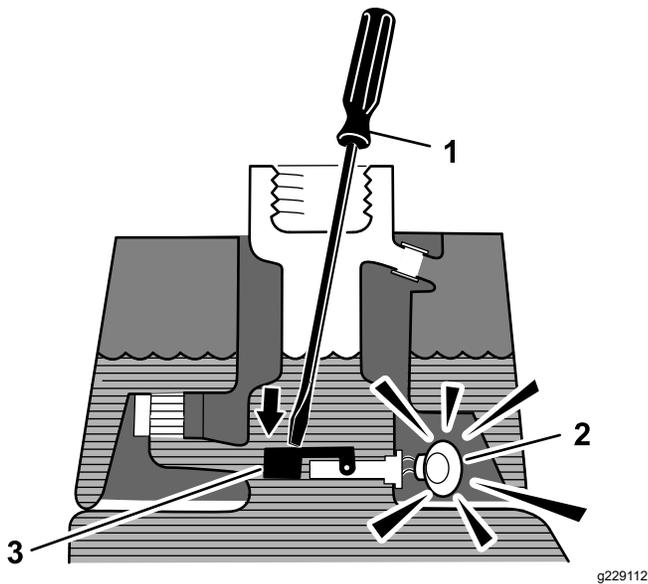

Figure 57
3. Insert a clean rod or screwdriver into the tank neck and gently push down on the float switch (Figure 57); the alarm should sound after the 1-second delay.